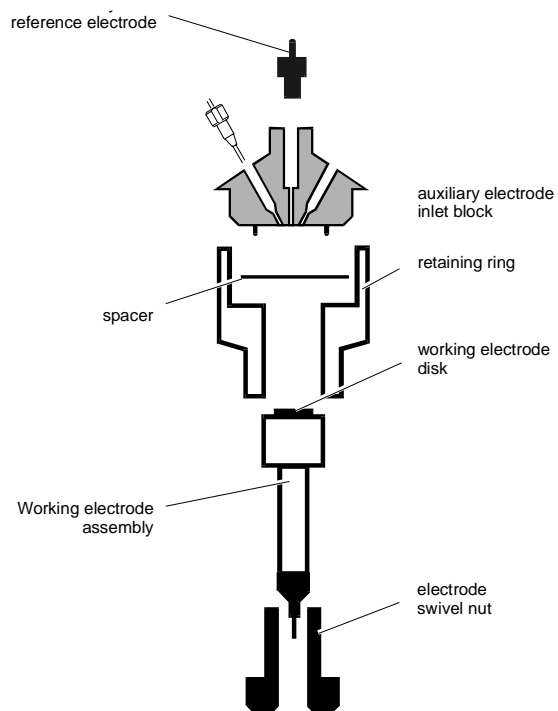

Fig. 8. Exploded diagram of a FlexCell.
4. Place the working electrode face down on the polishing disc, and polish the electrode with a 'figure 8' motion for about one minute. Apply only gentle pressure with one finger.